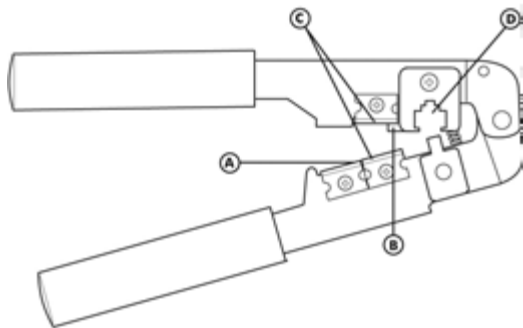

FIGURE 6: RJ-12 Modular Plug Crimping Tool
1. Using the cutter blade on the crimping tool (labeled **A** in Figure 6), cut the flat CA Cable so the cut is clean and 90 degrees to the sides of the cable.
2. Fully insert one end of the CA Cable between the stripping blades (labeled **C** in Figure 6) until the end of the cable hits the stop (labeled **B** in Figure 6).
6. Push a RJ-12 Modular Plug into the plug holder on the crimping tool (labeled **D** in Figure 6) until the release tab on the plug locks into position.